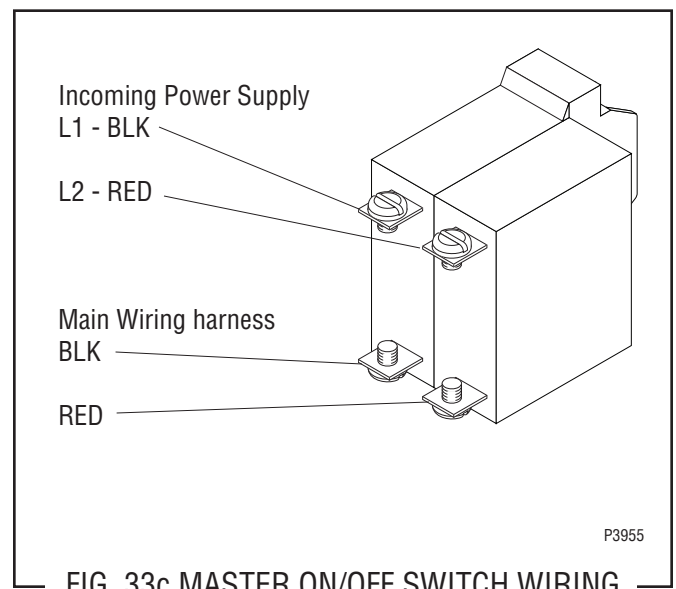

FIG. 33c MASTER ON/OFF SWITCH WIRING
4. Refer to FIG. 33c when reconnecting the wires.